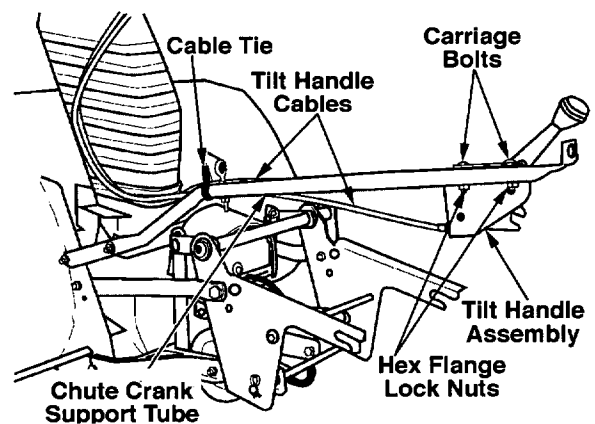

Figure 6
5. Routing the tilt handle cables (1-3) along the inside of the chute crank support tube (1-5), install the chute tilt handle assembly (1-3) on the support tube using the carriage bolts (2-7) and hex flange lock nuts (2-8). Refer to Figure 6.
- Secure the tilt handle cables (1-3) to the support tube (1-5) with the cable tie (2-20). See Figure 6. Cut excess length from the cable tie.